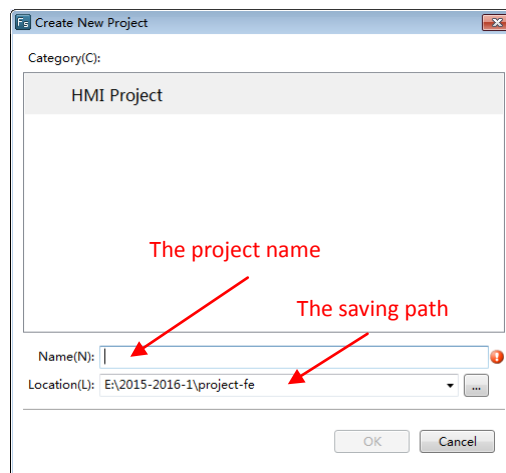

Fig. 10
(2) Enter the project name and select the project saving path. The project name can be Chinese, as shown in Fig. 10.